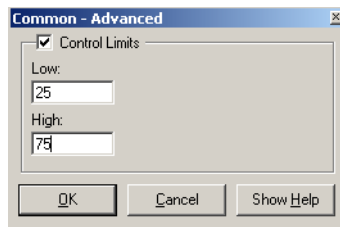

Figure 13. Setting the Control Range
4. Click **Advanced** to display the dialog for setting the operator's control range. Check the **Control Limits** check box and enter Low and High limits, Figure 13. These limits must be within the overall signal range (refer to Configuring the Overall Range on page 46).